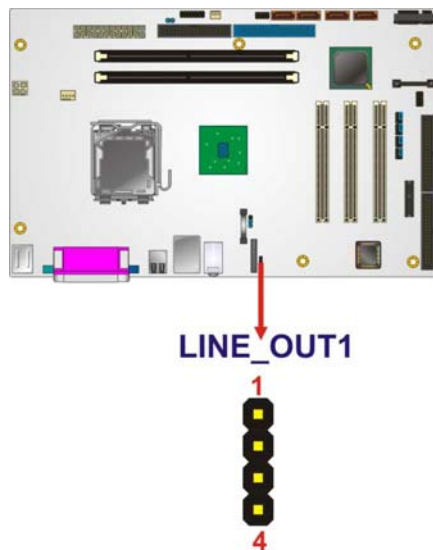

Figure 4-8: Line Out Connector Location
- CN Location:** See **Figure 4-8**